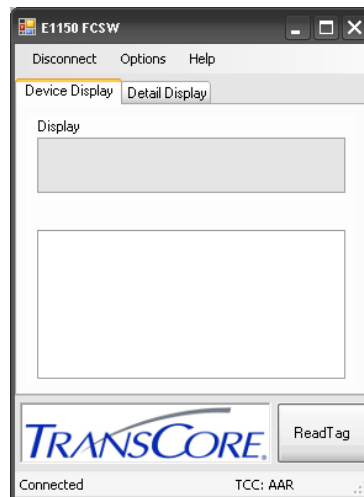

Figure 1 E1150 Field Configuration Software Startup Window
- The **E1150 FCSW** startup window will open (Figure 1). Click **Connect**. Click **COM Port**.